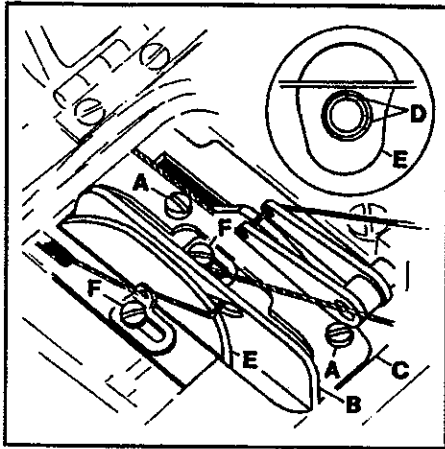

FIG. 33
Loosen screws (A, Fig. 33) and position looper thread cast-off (B) flush with the right end of cast-off support plate (C). Tighten screws (A). Loosen screws (D, Fig. 33 inset) and time take-up (E) so the thread will cast-off when the needle bar has descended $7/64"$ (2.8mm) from its highest position. When thread eyelets (F) are moved further to the left the amount of thread pull-off will increase.